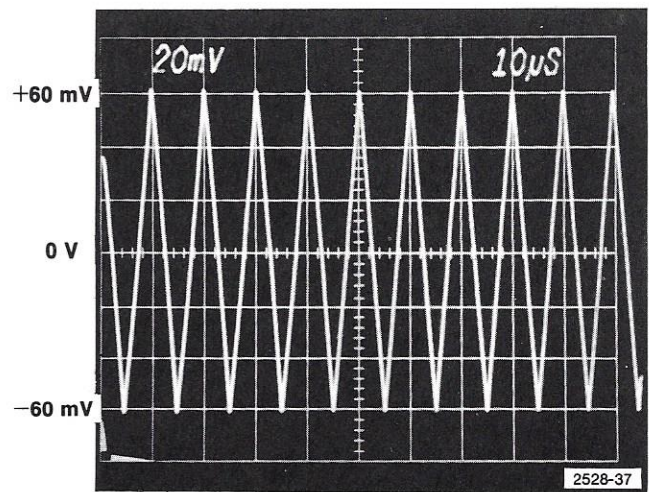

Fig. 4-4. Checking amplitude and dc level of J370 triangle waveform. FREQUENCY control is set to approximately 100 kHz in the manual mode.
d. CHECK—that the triangle waveform is symmetrical around ground and 80 mV to 120 mV peak-to-peak in amplitude. Figure 4-4 shows a 120 mV peak-to-peak amplitude waveform symmetrical around ground for use as a guide when performing part e of this step.
e. ADJUST—if necessary, R389 (Triangle Ampl) so that the top of the triangle waveform is +60 mV above ground. Adjust R379 (Neg Level Triangle) so that the bottom of the triangle waveform is -60 mV below ground as shown in Fig. 4-4.